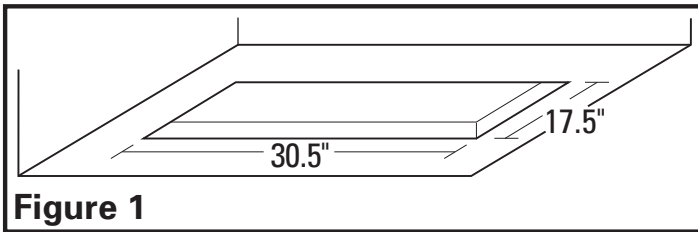

Figure 1
1. Cut a hole 30" wide by 17" deep into the cabinet or canopy the power unit will be mounted into (**Figure 1**):